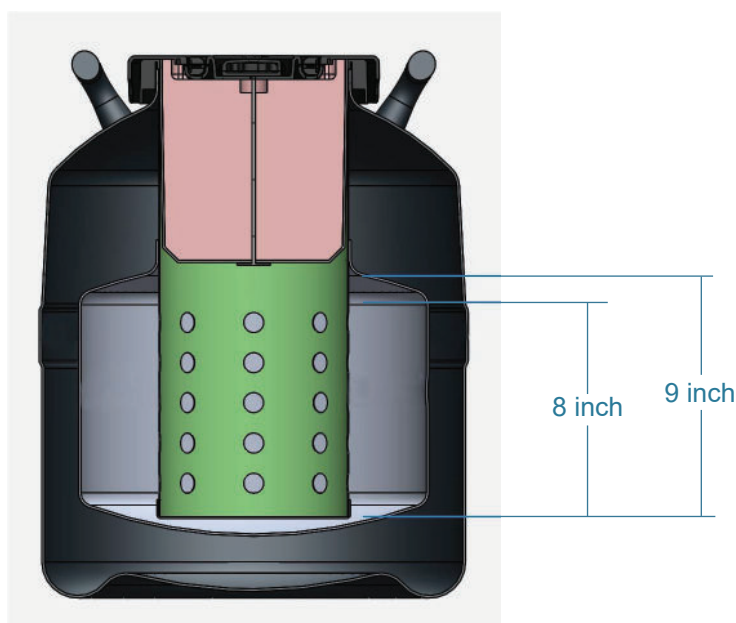

Figure-1
Step 2. Place the unit on a scale and take the tare weight without the canister but with the neck plug. Continue topping off the dewar with liquid nitrogen until the liquid stops boiling and is at the bottom of the neck tube (green tube at the top entrance of the tank). The VS8-2 has a neck tube that continues into the sample area of the tank. The VS8-2 must be filled to a height between 8 & 9 inches from the bottom of the sample chamber, see the below figure-1. After each addition of liquid nitrogen replace the neck plug. If the dewar is not already cold from a previous shipment, allow the dewar to cool down for 24 hours to reach steady state before proceeding to step 3.